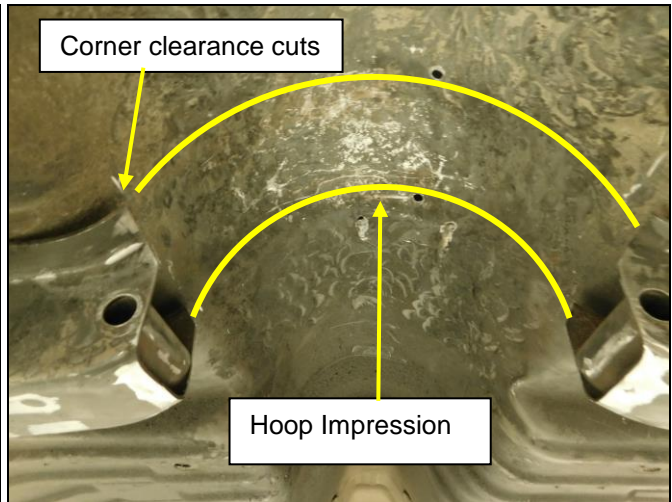

Figure 4
6. Forming the transmission tunnel directly over the BHS539 Crossmember Hoop will be necessary for the hoop to fit inside the transmission tunnel. Use a large hammer and or body dolly to form a pocket into the transmission tunnel sheet metal. Work the sheet metal and fit the BHS539 hoop into the transmission tunnel as you go to see where and how much the metal needs to be worked. Removing additional material on the top corners of the upper crossmember will be necessary as the BHS539 hoop fits into the tunnel. Check fitment and trim as needed to avoid moving more material than necessary (**Figures 4 & 5**).